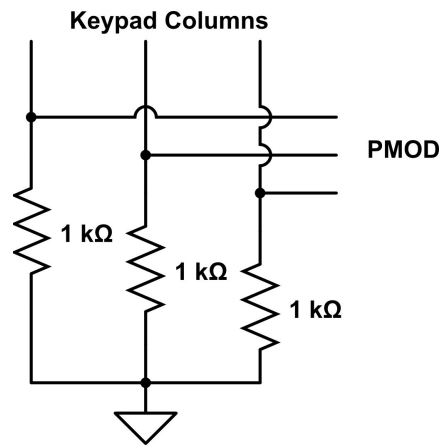

Figure 3: Keypad Pull Down Resistors
When no key is pressed on the keypad, the connections between the rows and columns are open. When this occurs, the input signals being read from the columns (or rows) will not be connected to a low or high voltage. This means the input signal will float. Floating signals can create havoc on digital circuits because when the inputs on a digital signal float they may be read as low (0) or high (1). This will create unpredictable behavior in the keypad driver when no keys are pressed. To keep the inputs from floating, the input signals can be forced to go high or low rather than float. This is accomplished by adding resistors that pull the signal up or pull the signal down. These resistors are called pull up or pull down resistors. When using pull up resistors, the button connection would need to drive the input low. When pull down resistors are used, the button connection would need to drive the input high. In the example behavior described above, the button connections would drive the input high, so pull down resistors will be needed. The resistors are added as shown below in Figure 3.